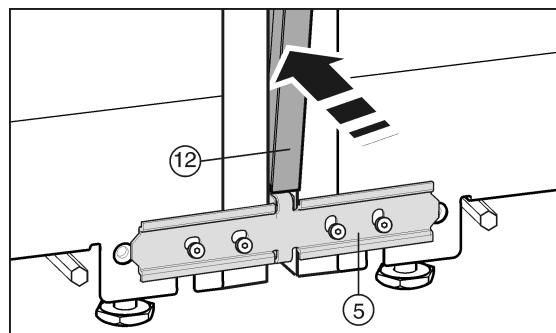

Fig. 26
Before inserting the trim Fig. 26 (12) squeeze the two fillets together along the entire length. The trim can now be inserted more easily into the gap. When pressing in the trim, use a soft cloth to prevent dents on the surface of the trim. Press the trim carefully and evenly into the gap to achieve the best possible fit.
- On the front press the long trim Fig. 26 (12) into the vertical gap. Ensure that the trim rests on the connecting panel Fig. 26 (5).